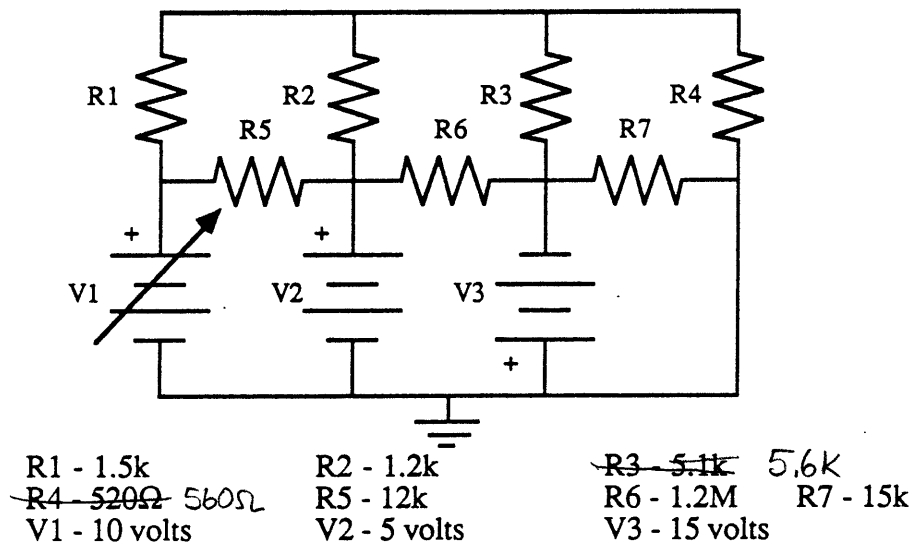

Figure 2.3 Resistive network
Build the circuit shown in Fig. 2.3 using your protoboard. Use the RSB for the one resistance which is not a standard value. Use the DMM to measure all of the voltages (including the sources) and all of the currents. Record your measurements in Table 2.7. IF YOU MEASURE ANY CURRENT ABOVE 10 mA YOU ARE DOING SOMETHING WRONG! The meter must be put in series with the resistors (or sources) to measure current. To do this you must disconnect one end of a resistor (or source) from the rest of the circuit and use the meter to bridge the broken connection. Remember to use the "VKS" input for measuring voltage and the "mA" input for measuring current.
- 6. (a) Starting from the source voltages and resistance values, calculate the voltage across and current through each resistor in Figure 2.3. Do not use any of your experimental data. Show your work.